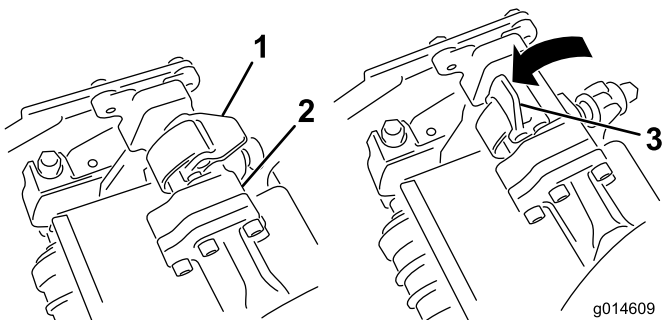

**Figure 11**
3. If installing the center cutting unit, lift up on the foot rest and swing it up, allowing access to the center cutting unit position (Figure 11).